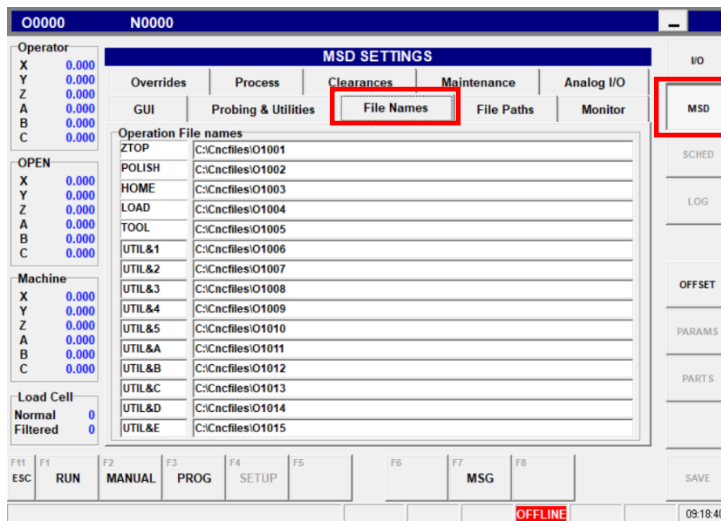

Figure 39 - Setting up a utilities program
10. Press “MSD” Button. See (Figure 39 - Setting up a utilities program).
11. Select “File Names” Tab page. See (Figure 39 - Setting up a utilities program).